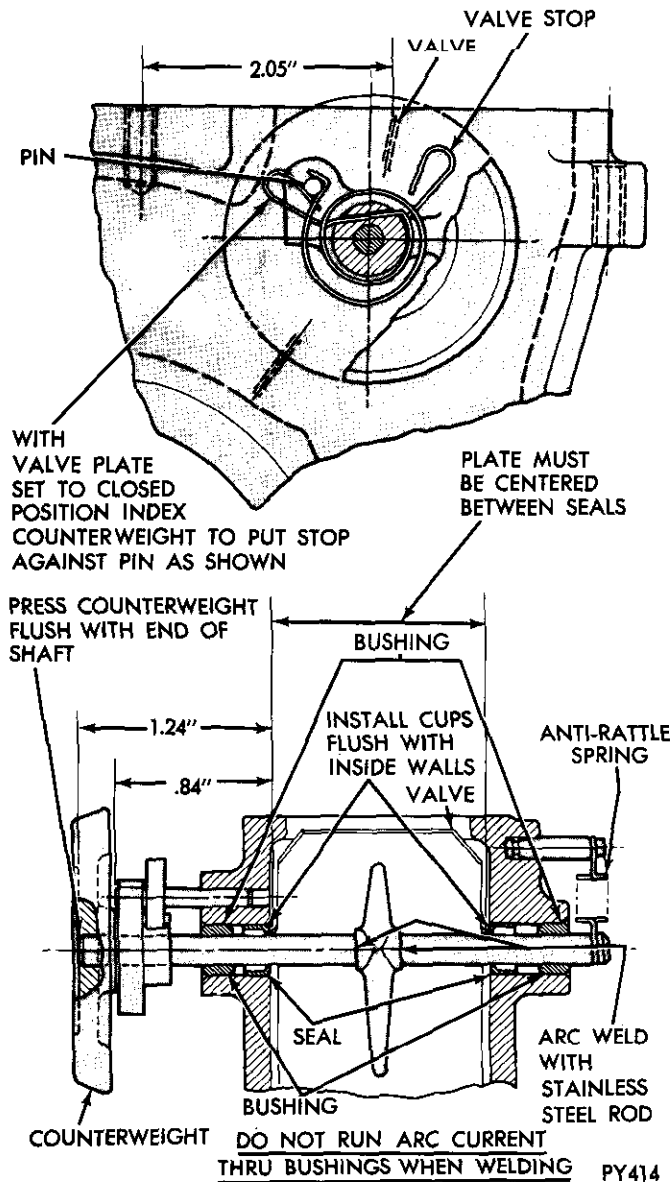

Fig. 12—Proper Manifold Heat Control Valve Installation, Six Cylinder Engines
(1) Position valve plate, grind off spot welds from valve plate and shaft.
(2) Remove counterweight and shaft assembly, valve plate.
(3) Press out bushings and cup seals from manifold (Fig. 12).
(4) Inspect vent holes and clean out necessary.
(1) **Press** in cup seals flush with inside walls (Fig. 12) with cupped ends facing outward.
(3) Line ream bushings and seals .3095 to .3110 inch diameter. Test for free fit of shaft in bushings and seals.
(4) Mark one end of shaft with a suitable dye at 1.240 inches, press counterweight on marked end of shaft until flush with end of shaft.
(5) Install thermostatic spring on counterweight with center end or tab pointing **right** and outer end or hook pointing **left**.
(6) Install valve stop on counterweight with looped
(11) Complete assembly and installation as outlined on page 7.
(7) Holding thermostatic spring wrapped 215 degrees in a **clockwise** direction viewed from counterweight end, install shaft assembly in manifold and valve plate with strap facing outboard; attach hook end of thermostatic spring to stop pin (Fig. 12).
(8) With counterweight end of shaft positioned 1.240 inches (previously identified) away from manifold, valve plate centered between seals and positioned 2.05 inches from center of inside tapped hole (intake to exhaust manifold attaching screw) (Fig. 12).
(9) Arc weld valve plate to shaft with stainless steel rod. **Arc welding ground must be made at counterweight.**
(10) Test for free operation. Install anti-rattle spring.